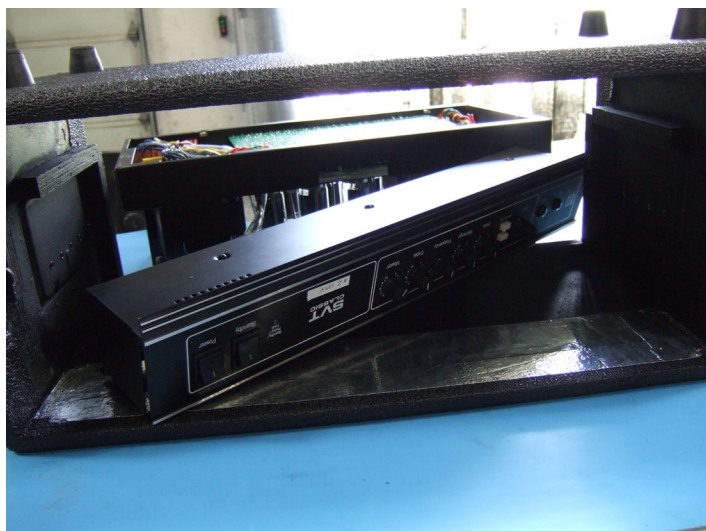
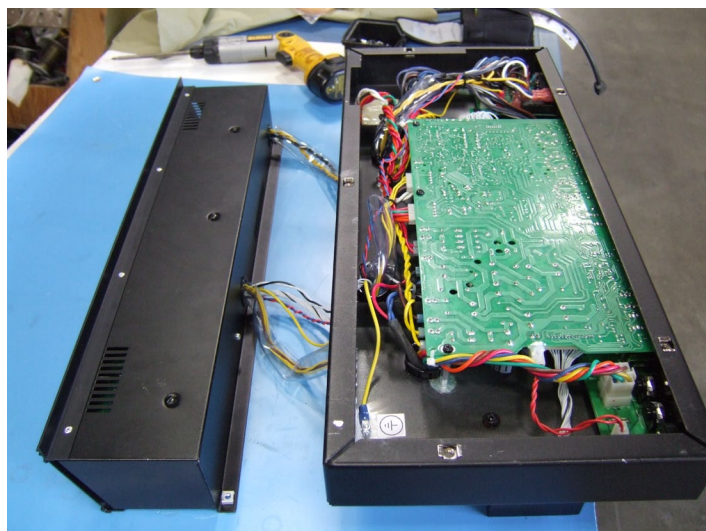

Figure 9a
Figure 9b
9. Now pull the Pre Amp section thru the cabinet as seen in Figures 9a. Once it is clear of the cabinet it is suggested to set the cabinet aside as seen in Figure 9b.